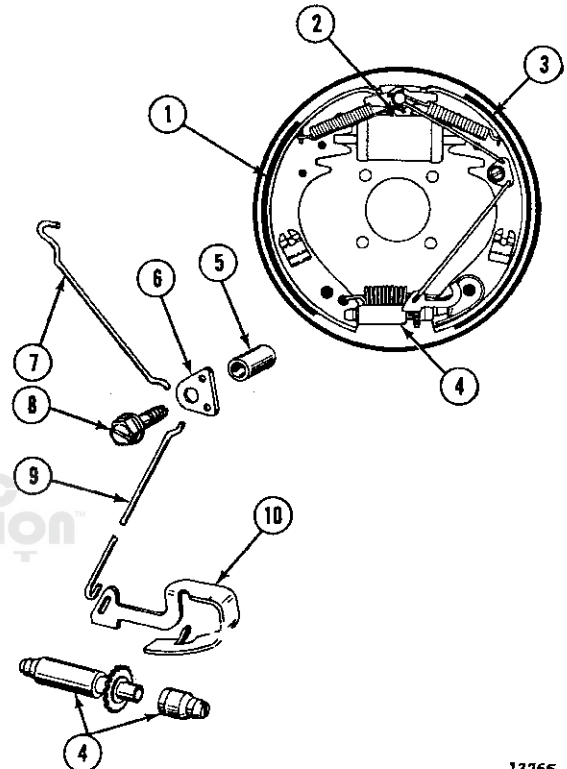

FIG. P-10—STANDARD FRONT WHEEL BRAKE ASSEMBLY WITH LINK TYPE ADJUSTER
The automatic adjuster on the brake system consists of an adjusting screw assembly, adjusting lever, two adjusting links, and a lever crank, (Fig. P-10).
c. Remove the wheels, hubs and drums, which will give access to the brake shoes (Fig. P-10, P-11).
● Refer to Fig. P-10.
Refer to Fig. P-10.